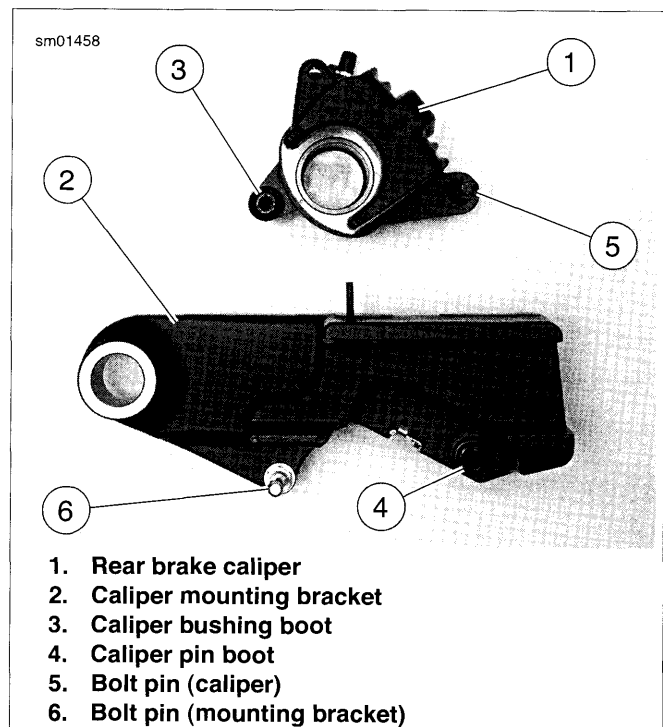

Figure 2-101. Lubricating Caliper Boots and Pins
1. See Figure 2-101. Apply approximately 0.4 g of G40M BRAKE GREASE inside caliper bushing boot (3) and caliper pin boot (4).